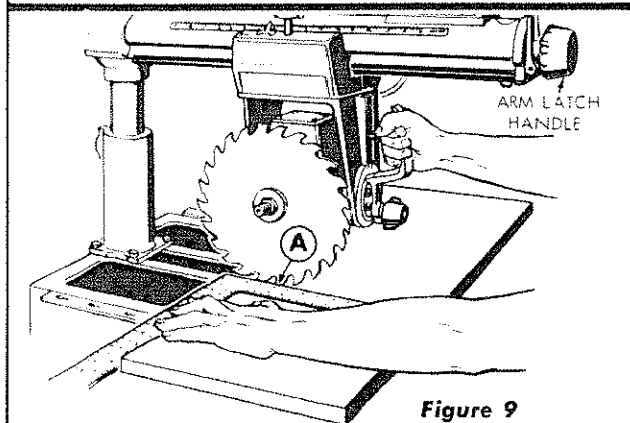

Figure 9
- Loosen the arm latch handle (figure 9) 1/4 turn. Make sure the yoke clamp handle and bevel lock knob are tight.
- Place a framing square on the table as shown in figure 9 and position the saw and square until the leg of the square just contacts a tooth of the saw blade. (Position "A", figure 9.) Mark this tooth with crayon or chalk.
- If saw tooth ("A", figure 9) moves away from the square when moving the blade from the rear toward the front of the table, tap the right-hand front edge of the table.
- If the saw tooth ("A", figure 9) moves into the square when moving saw from the rear to the front of saw table, tap the left-hand front edge of table.
- Turn the arm latch handle (figure 9) one-quarter turn counterclockwise but do not pull it out.
- d. Move radial arm slightly in the proper direction to make saw tooth ("A", figure 9) follow edge of square when the saw blade is moved in and out in a "cross-cut" manner.
- e. Re-tighten the hex head screws (5, figure 10) and arm latch handle (See figure 9).